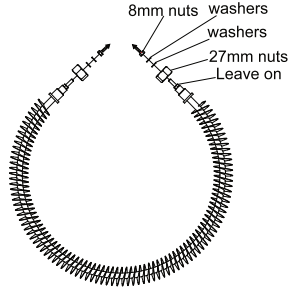

Figure 12
3. Install the small heating element prior to installing the large heating element (if required). To replace a heating element, first remove the 27mm nuts, one 8mm nut and 2 small washers from each side of the new heating element. Leave one 8mm nut on both sides of the new component (See Figure 12).